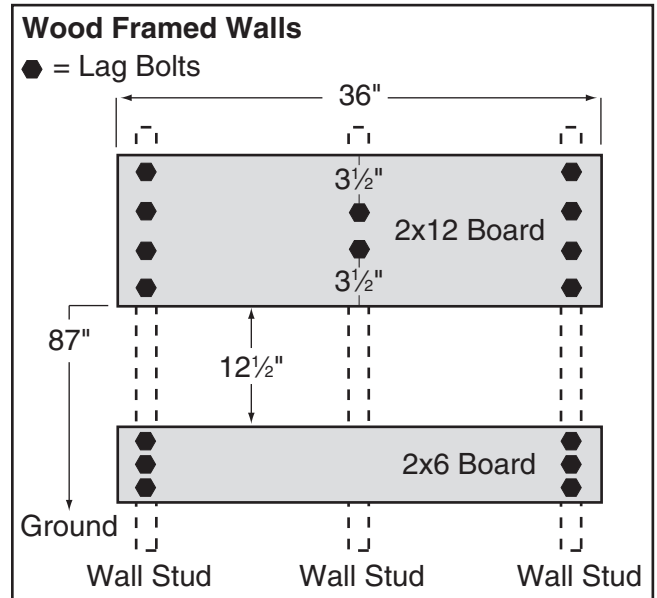

Figure 3. Wall mounting board layout.
1. Secure wall mounting boards to your wall, using layout diagram for wall type (see **Figure 3**).